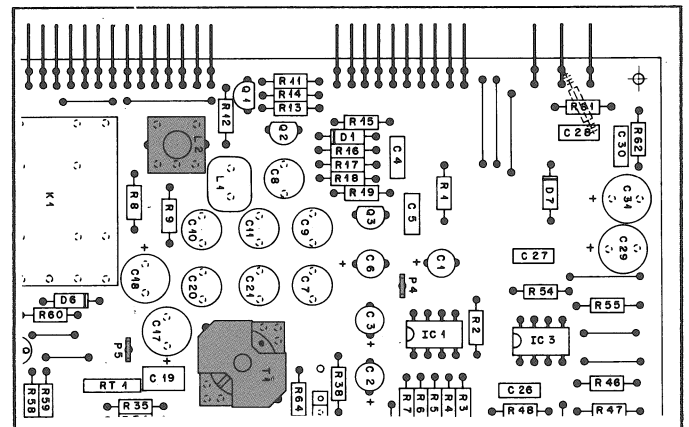

Fig. 11
- Connect the multimeter (-) to P5 (Fig. 14), (+) to test point 37 (EXT.BOARD). Connect the oscilloscope probe to P4 (Fig. 11), ground to test point 39 (EXT.BOARD).
- Align with T1 (Fig. 11) to minimum voltage reading on the multimeter.
- Align with T2 (Fig. 11) to minimum RF on the oscilloscope. Channel 2 is adjusted analogously.